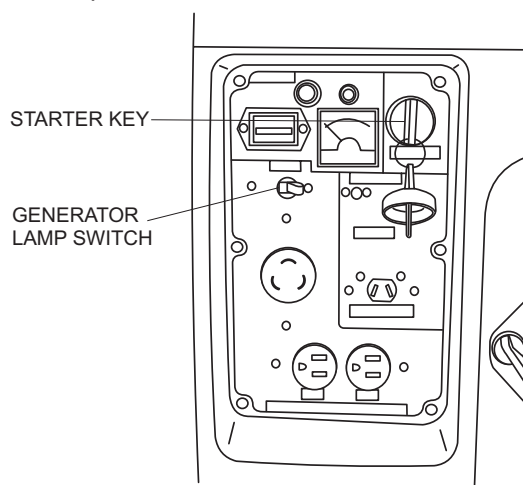

Figure 15. Generator Lamp Switch
1. Make sure the generator lamp switch (Figure 15) is in the OFF position.
5. Place the generator lamp switch (Figure 15) to the ON position.
1. Place the generator lamp switch (Figure 15) to the OFF position.